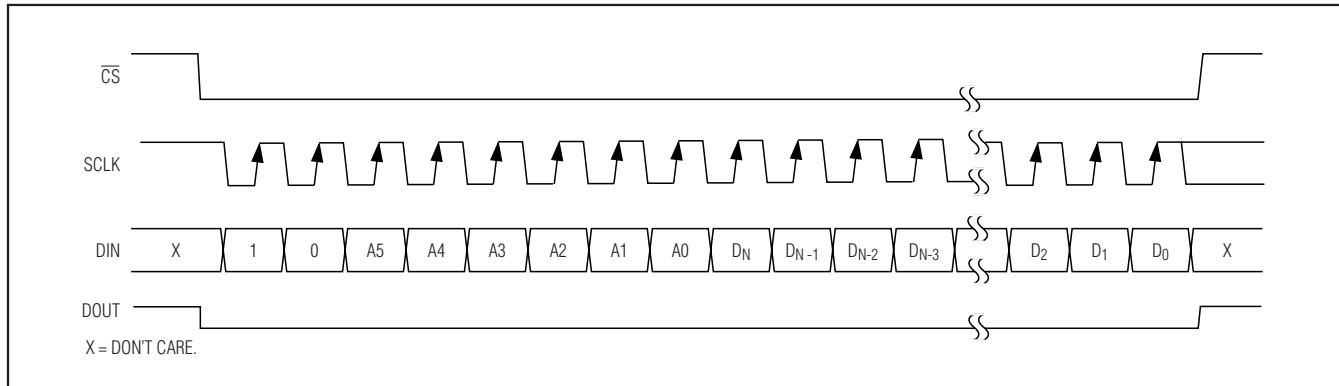

Figure 14. Serial-Interface Register Write with 8-Bit Control Word, Followed by a Variable Length Data Write
The MAX1358B features a 4-wire serial interface consisting of a chip select (CS), serial clock (SCLK), data in (DIN), and data out (DOUT). CS must be low to allow data to be clocked into or out of the device. DOUT is high impedance while \overline{CS} is high. The data is clocked in at DIN on the rising edge of SCLK. Data is clocked out at DOUT on the falling edge of SCLK. The serial interface is compatible with SPI modes CPOL = 0, CPHA = 0 and CPOL = 1, CPHA = 1. A write operation to the MAX1358B takes effect on the last rising edge of SCLK. If \overline{CS} goes high before the complete transfer, the write is ignored. Every data transfer is initiated by the command byte. The command byte consists of a start bit (MSB), R/W bit, and 6 address bits. The start bit must be 1 to perform data transfers to the device. Zeros clocked in are ignored. For SPI pass-through mode, see the *UIPO_SPI Register* section. An address byte identifies each register. Table 4 shows the complete register address map for this family of DAS. Figures 14, 15, and 16 provide timing diagrams for read and write commands.